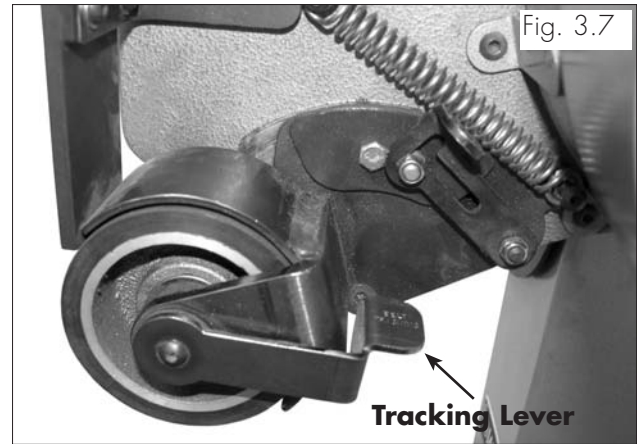

Fig. 3.6
5. Replace the belt and release the catch as in fig 3.6.